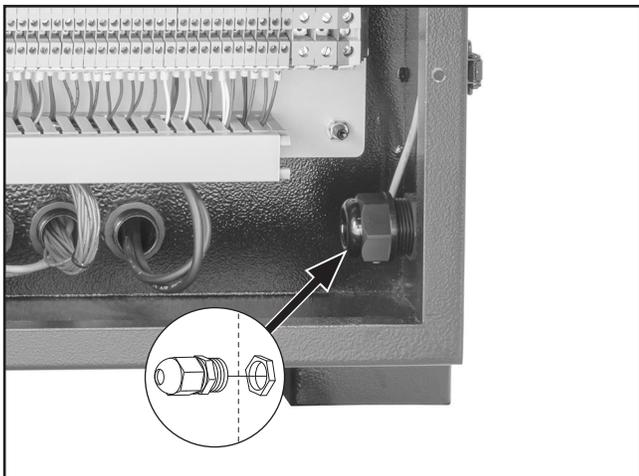

Figure 27. Power supply strain relief installed on electrical cabinet.
3. Locate strain relief (see **Figure 27**) loose inside electrical cabinet and remove nut.
4. Insert strain relief into hole shown in **Figure 27**, then secure by loosely threading nut onto strain relief.